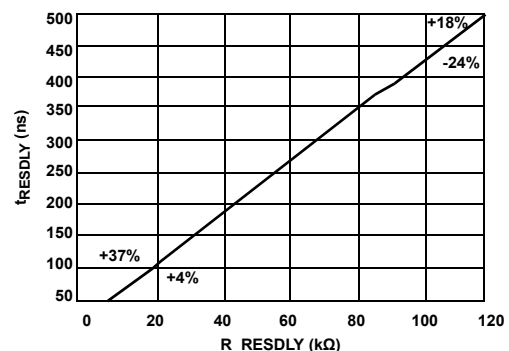

FIGURE 10.  $R_{RESDLY}$  vs  $RESDLY$
- Figure 10 illustrates the relationship of the value of the resistor ( $R_{RESDLY}$ ) and the resonant delay ( $t_{RESDLY}$ ). The percentages in the figure are the tolerances at the two end points of the curve.